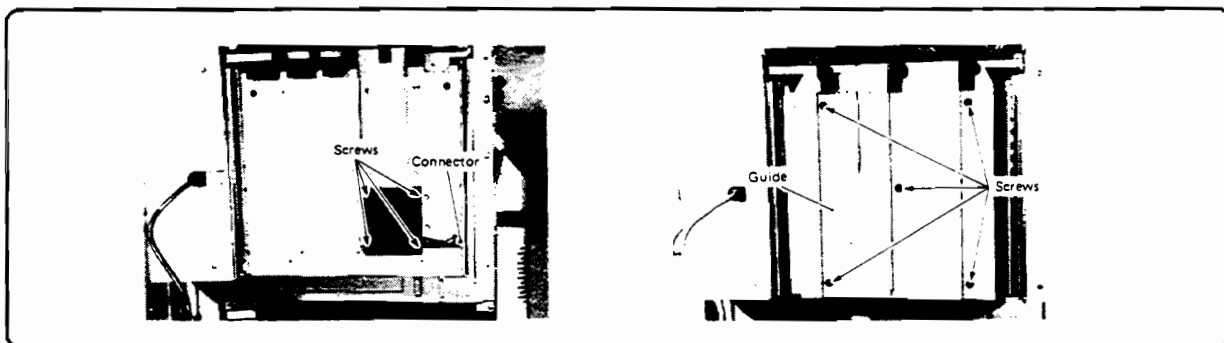

Figure 6-127. Stacker Fan Removal
3. Remove the top two screws from the fan guide plate (Figure 6-127).
6. Open the Switchback assembly and remove the fan guide plate by sliding it down and out (Figure 6-127).